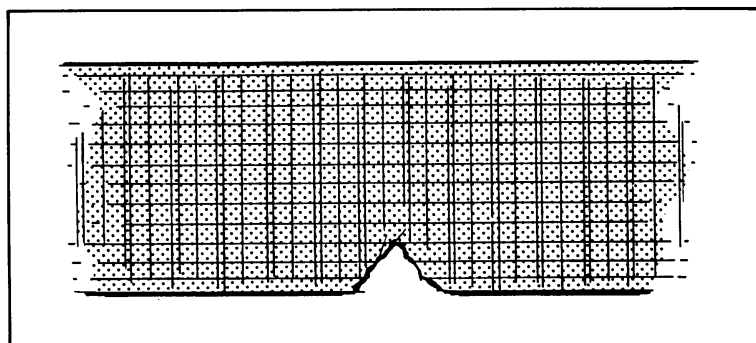

Figure 9 A torn seat belt. Why is it dangerous?
- 19 Figure 9 shows a seat belt that has become slightly torn at the edge. Why might this seat belt be dangerous in a crash?